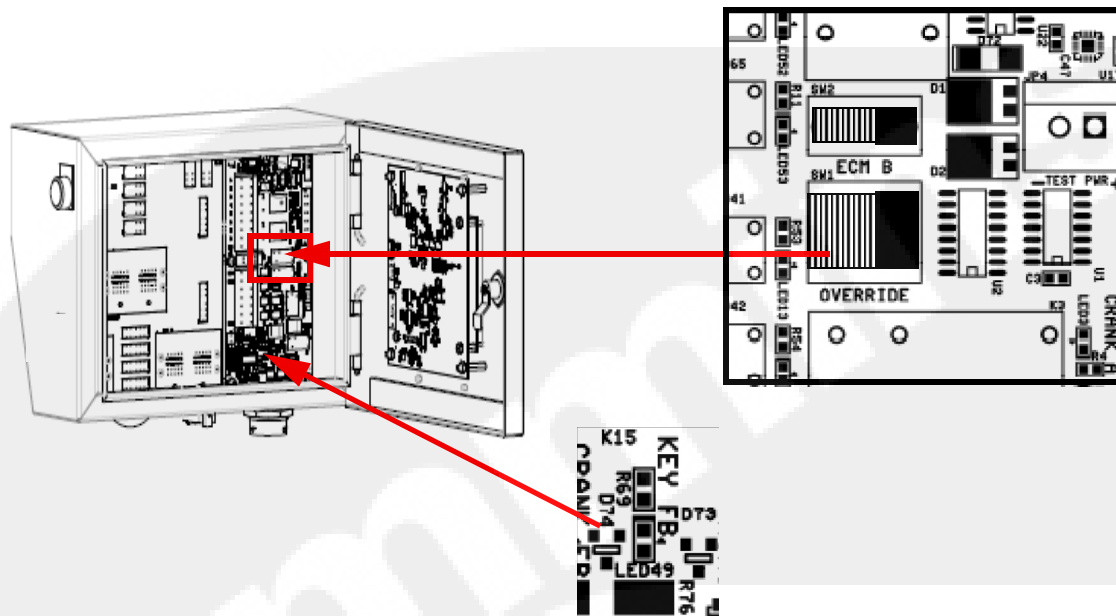

Figure 4-1 FPDP Override Switch
2. As shown in Figure 4-1, open the FPDP panel door and slide the key switch override to the "RIGHT" position. Verify that LED 49 - KEY FB (key feedback) switch is lit.